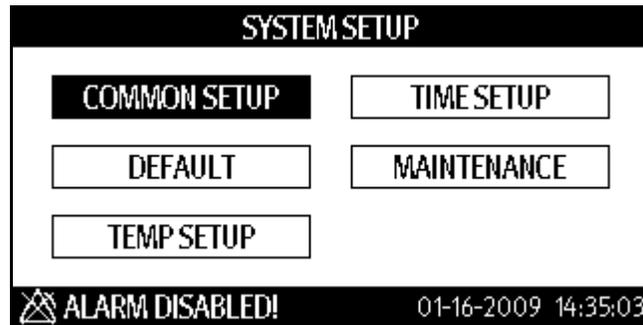

FIGURE 6-13 SYSTEM SETUP dialog
2. Press  to display the **SYSTEM SETUP** dialog as shown in FIGURE 6-13.
2. Press  to display the **SYSTEM SETUP** dialog FIGURE 6-13.